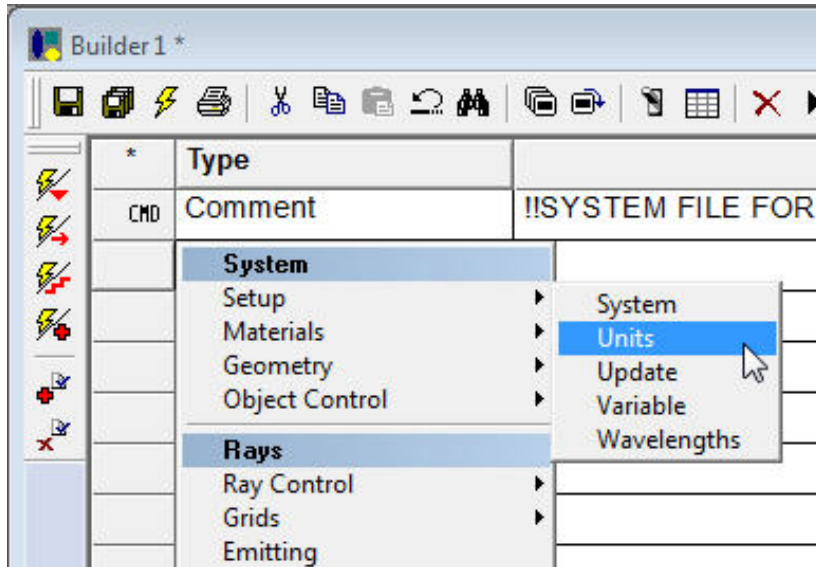

Figure 24 Setting system units
- 15 In the Type column, double-click an empty cell, and under **System** click Setup> Units. See Figure 24.